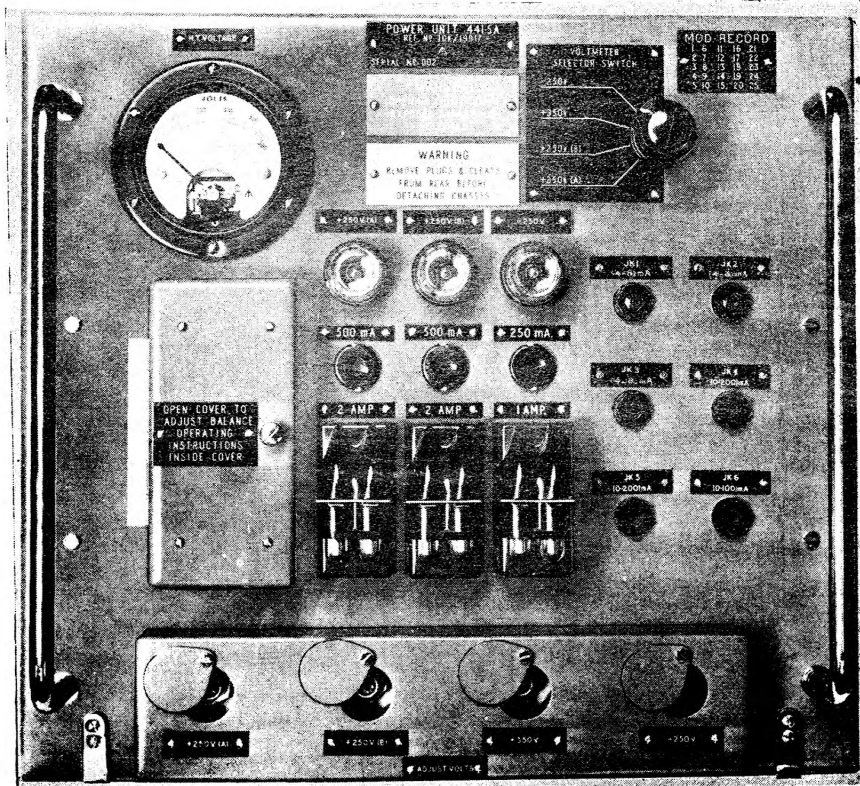

Fig. 1. Power unit 4415A : front panel
1. This unit (*fig. 1, 2 and 3*) produces three stabilized HT supplies for amplifying unit (video) 4416 (*Sect. 2, Chap. 11*), or 4416A. One of these supplies is -250V which, after switch-on, is available earlier than the other two $+250\text{V}$ supplies. The output voltages are monitored by a four-position switch connected to a panel-mounted meter. The AC input is switched on and off by the amplifying unit video 4416A (*Sect. 2, Chap. 14*).